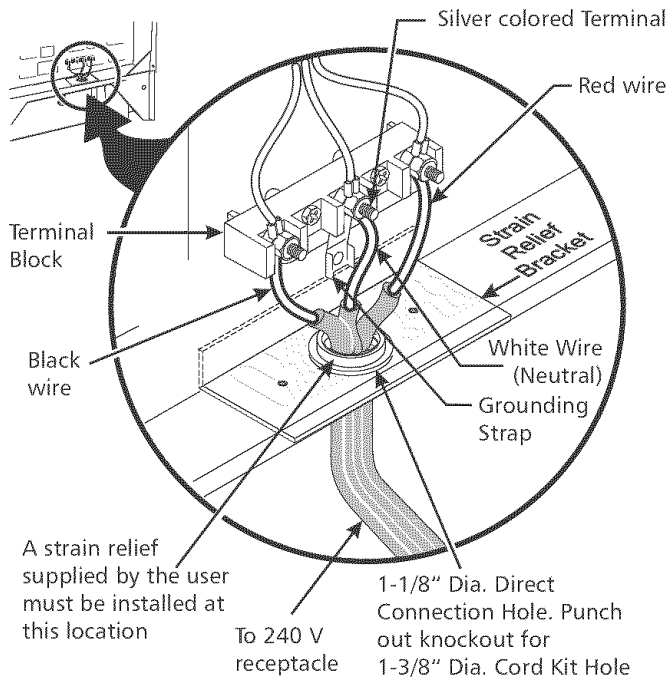

Figure 3
NOTE: Dual fuel Slide-in Range is shipped from factory with 1 1/8" dia. hole as shown on figure 3. If a larger hole is required, punch out the knockout.
WARNING Risk of fire or electrical shock exists if the incorrect amperage cord is used, the Installation Instructions are not followed, or the strain relief bracket is discarded (see Figure 3).
(The 3-conductor cord or cable must be replaced with a 4-conductor cord or cable where grounding through the neutral conductor is prohibited in new installations, mobile homes, recreational vehicles or in other areas where local codes do not permit neutral grounding) If local codes permit connection of the frame grounding conductor to the neutral wire of the copper power supply cord (see Figure 3):
4. Replace the 3 nuts on the terminal block. (See Figure 3)